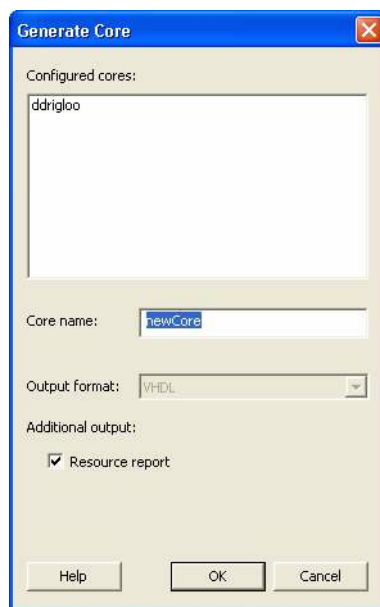

Figure 9-4 • Generate Core Window
4. Once the desired configuration is selected, click the **Generate** button. The Generate Core window opens (Figure 9-4).